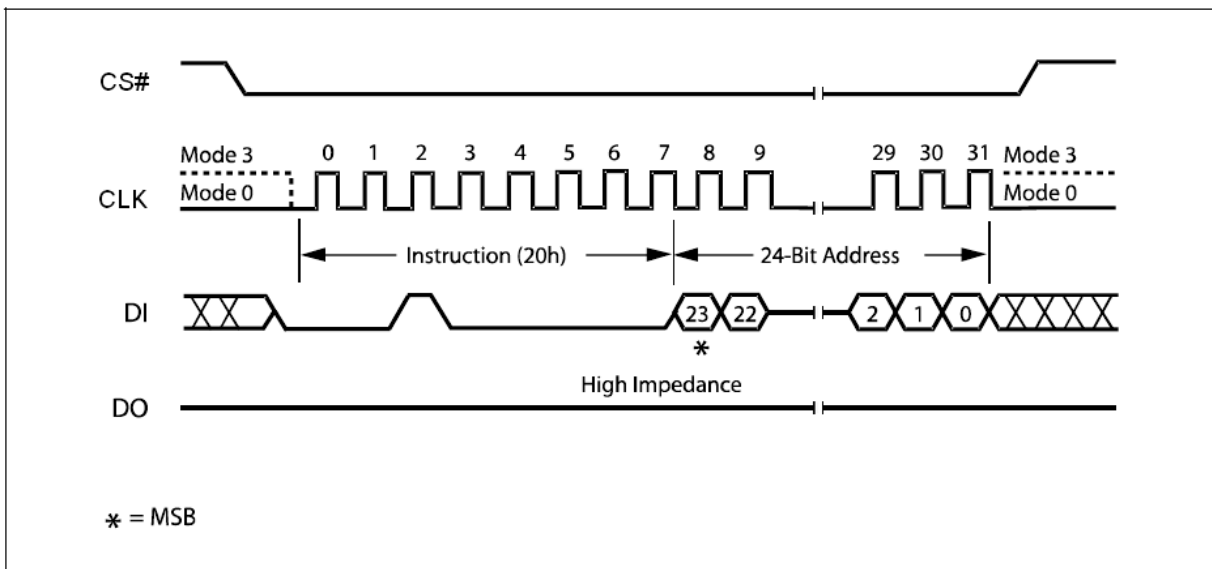

Figure 13. Sector Erase Instruction Sequence Diagram
The instruction sequence is shown in Figure 13. Chip Select (CS#) must be driven High after the eighth bit of the last address byte has been latched in, otherwise the Sector Erase (SE) instruction is not executed. As soon as Chip Select (CS#) is driven High, the self-timed Sector Erase cycle (whose duration is t_{SE}) is initiated. While the Sector Erase cycle is in progress, the Status Register may be read to check the value of the Write In Progress (WIP) bit. The Write In Progress (WIP) bit is 1 during the self-timed Sector Erase cycle, and is 0 when it is completed. At some unspecified time before the cycle is completed, the Write Enable Latch (WEL) bit is reset.